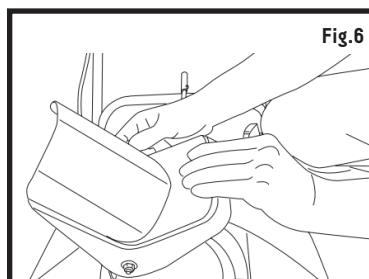

Fig.6
- Lift the chute deflector and lock it securely onto the discharge chute (Fig. 6).